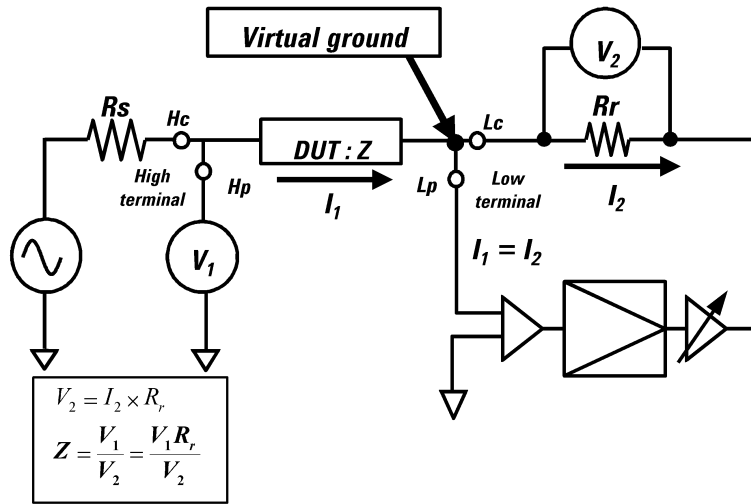
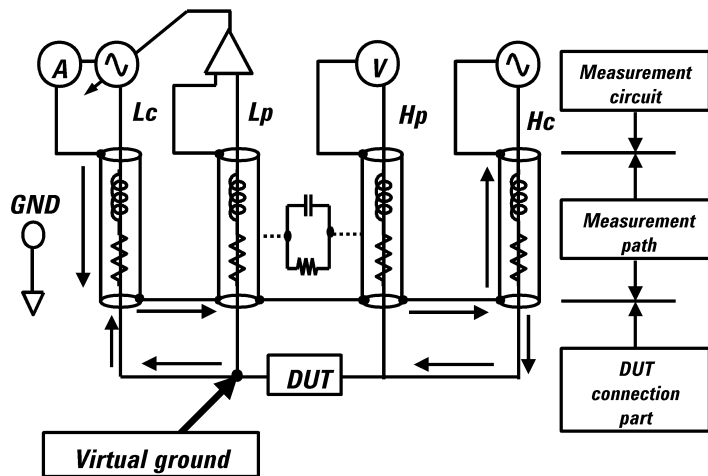

Figure 3. Auto-Balancing-Bridge method
Figure 4. Four-Terminal Pair cable configuration
The 4294A provides the best measurement accuracy and the broadest impedance coverage using the 4TP configuration with the ABB method. (Refer to Figure 4.) Figure 3 shows the circuit diagram of the ABB method. In this circuit, the voltage at the virtual ground point is maintained close to the zero voltage; and the current (I_1), which flows through the DUT, goes to the range resistor (R_r). The DUT impedance (Z) is calculated using a voltage measurement (V_1) at the high terminal and a current measurement (I_2), which is given as the voltage measurement (V_2) at the range resistor.
As shown in Figure 4, at the Hc and Lc terminals, the currents of the inner and outer (shield) conductors are at the same level and flowing in the opposite direction. Therefore, the magnetic flux generated by the inner and outer conductor (shield) cancel each other. At the Hp and Lp terminals, only the difference of voltage between the inner and outer conductor (shield) is detected. The generated electromotive force due to the external magnetic flux at the inner conductor and outer conductor therefore can be eliminated. Consequently, it is possible to measure a wide impedance range without the effect of measurement path length because the magnetic flux generated from the measurement cables and sensitivity to the external magnetic flux are drastically reduced by using the 4TP configuration.
2. The bridge circuit is stabilized by using phase compensation technology. In order to improve the bridge balance stability at high frequencies, the 4294A has a special circuit designed to compensate for the null-loop characteristics, which can vary with frequency and cable length. The null-loop circuit is located at the low terminal, as shown in Figure 3, and adjusts the feedback loop to maintain a zero voltage at the virtual ground.